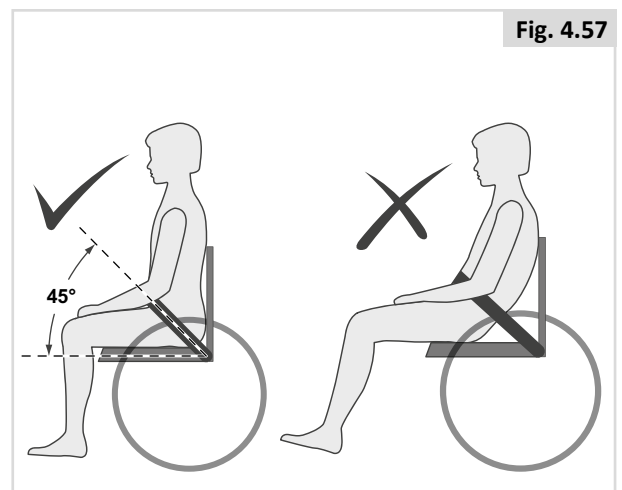

Fig. 4.57
- Generally, the lap strap should be fixed so that the straps sit at an angle of approximately 45° (Fig. 4.57), and when correctly adjusted should not allow user to slip down in the seat.